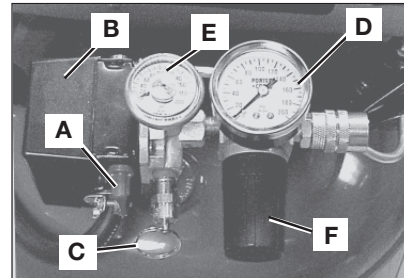

Fig. 1
ON/AUTO - OFF Switch (A) Fig. 1: Turn this switch ON to provide automatic power to the pressure switch and OFF to remove power at the end of each use.
Pressure Switch (B) Fig. 1: The pressure switch automatically starts the motor when the air tank pressure drops below the factory set "cut-in" pressure. It stops the motor when the air tank pressure reaches the factory set "cut-out" pressure.
Safety Valve (C) Fig. 1: If the pressure switch does not shut off the air compressor at its cut-out pressure setting, the safety valve will protect against high pressure by "popping out" at its factory set pressure (slightly higher than the pressure switch cut-out setting).
Outlet Pressure Gauge (D) Fig. 1: The outlet pressure gauge indicates the air pressure available at the outlet side of the regulator. This pressure is controlled by the regulator and is always less than or equal to the tank pressure.
Tank Pressure Gauge (E) Fig. 1: The tank pressure gauge indicates the reserve air pressure in the tank.
Regulator (F) Fig. 1: The air pressure coming from the air tank is controlled by the regulator knob. Turn the knob clockwise to increase pressure and counterclockwise to decrease pressure. To avoid minor readjustment after making a change in pressure setting, always approach the desired pressure from a lower pressure. When reducing from a higher to a lower setting, first reduce to some pressure less than that desired, then bring up to the desired pressure. Depending on the air requirements of each particular accessory, the outlet regulated air pressure may have to be adjusted while you are operating the accessory.